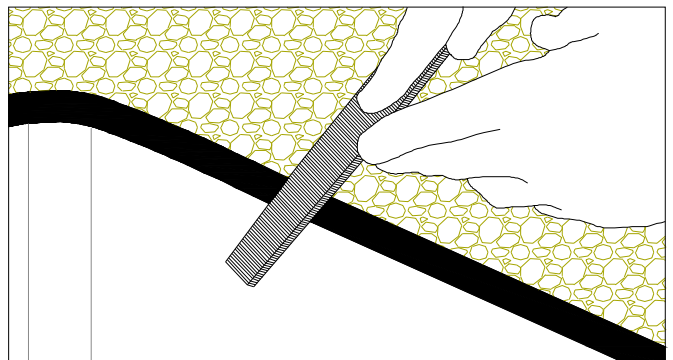

Figure 29C
- ☐ Lightly file at a 45° angle. (FIG. 29C)